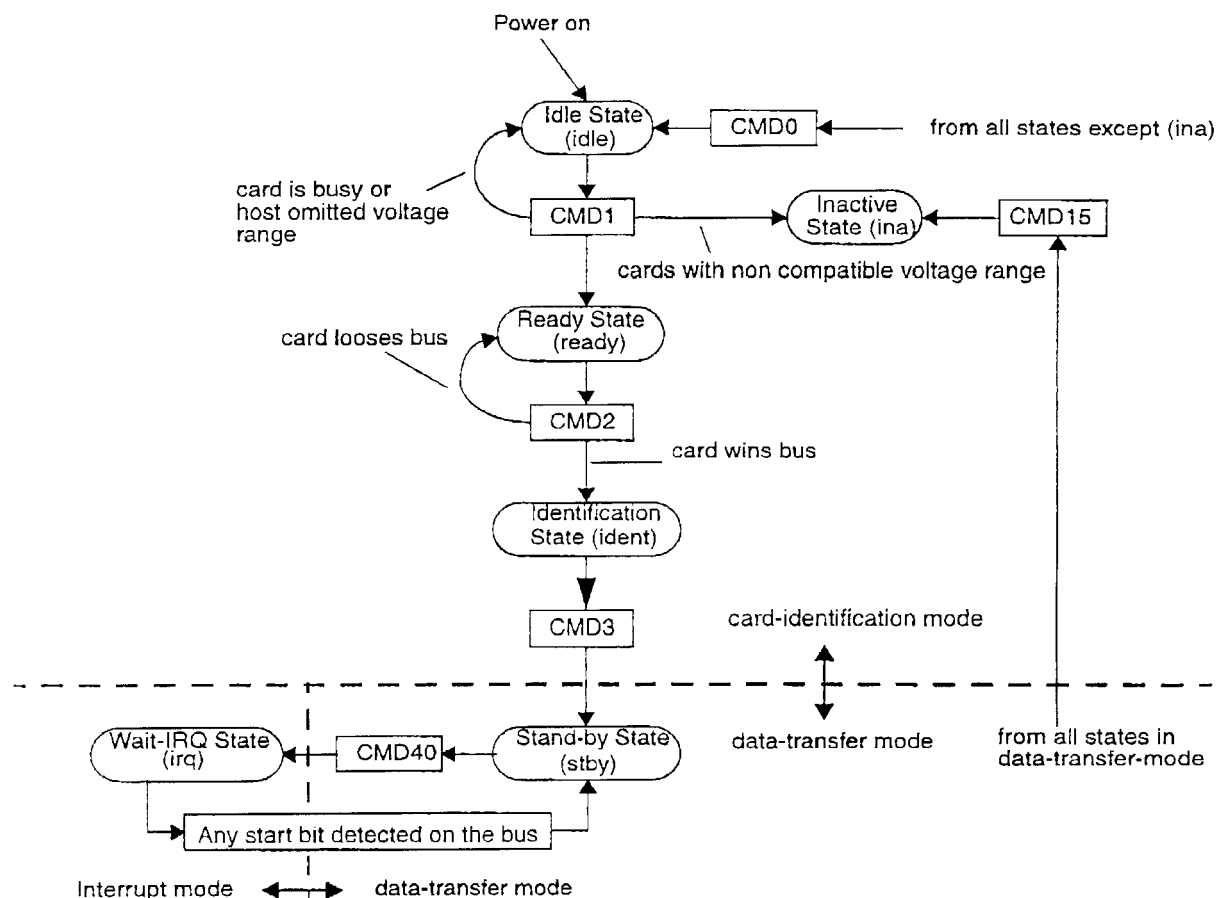
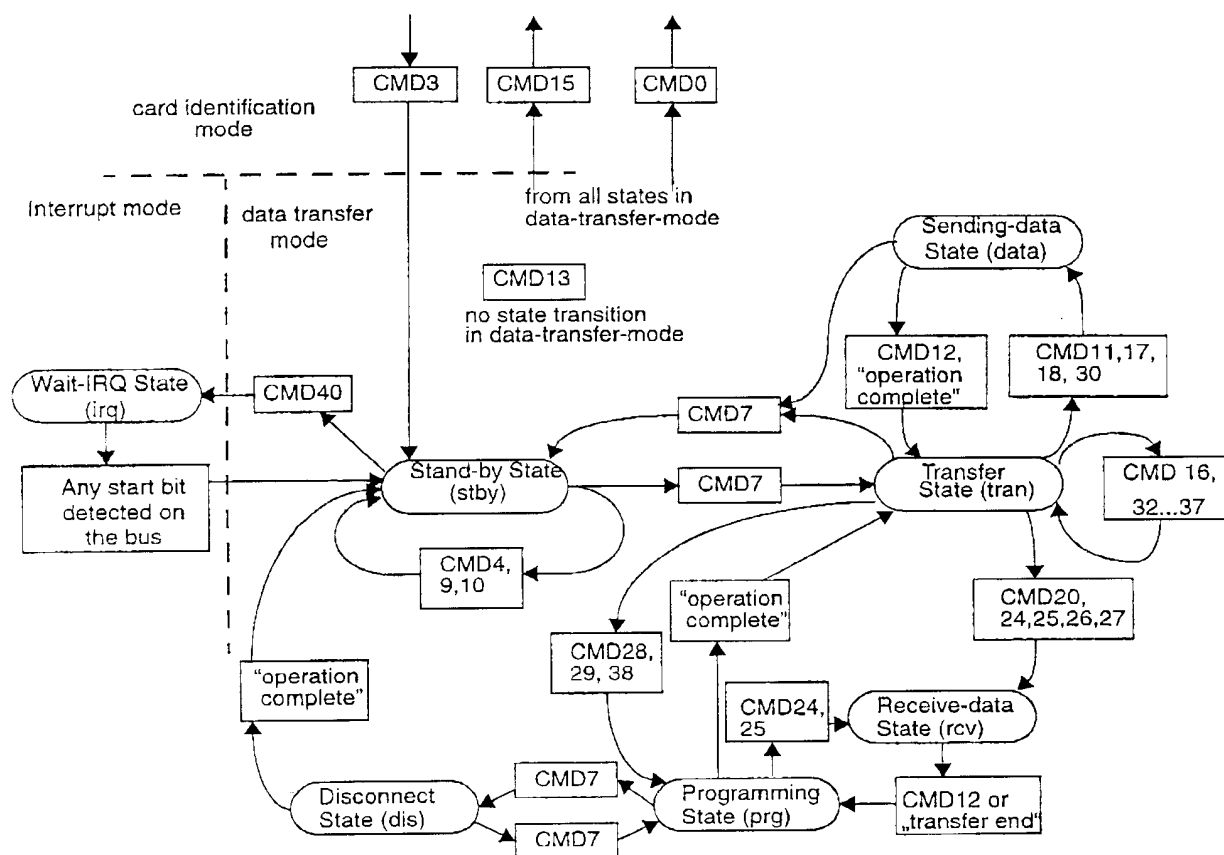

Figure 5-1 MultiMediaCard State Diagram (Card Identification Mode)
Figure 5-2 MultiMediaCard State Diagram (Data Transfer Mode)
A general overview of the command flow is shown in Figure 5-1 for the Card Identification Mode and in Figure 5-2 for the Data Transfer Mode. The commands are listed in the command tables (Table 5-3 through Table 5-9). The dependencies between the current MultiMediaCard state, received command and following state are listed in Table 5-10. In the following sections, the different card operation modes will be described first. Thereafter, the restrictions for controlling the clock signal are defined. All MultiMediaCard commands together with the corresponding
The following table shows the dependencies between bus modes, operation modes and card states. Each state in the MultiMediaCard state diagram (Figure 5-1 and Figure 5-2) is associated with one bus mode and one operation mode:
The relationship between the various data transfer modes is summarized in the card state diagram Figure 5-2, and in the following paragraphs:
- The MultiMediaCard may provide buffering for stream and block write. This means that the next block can be sent to the card while the previous is being programmed. If all write buffers are full, and as long as the MultiMediaCard is in Programming State (see MultiMediaCard state diagram Figure 5-2), the DAT line will be kept low.
Similarly, if an illegal command has been received, a MultiMediaCard shall not change its state, shall not response and shall set the ILLEGAL_COMMAND error bit in the status register. Only the non-erroneous state branches are shown in the state diagrams (Figure 5-1 and Figure 5-2). Table 5-10 contains a complete state transition description.